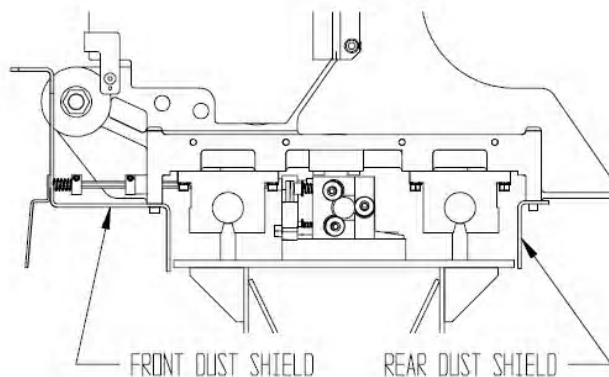

FIG. 3
**STEP 1**--Detach the bellows mounting brackets from the carriage. Detach front and rear shields. See FIG. 3.
**STEP 6**--Replace front and rear shields. See FIG. 3. Replace the bellows carriage mounting brackets onto the carriage after the actuator bearings are replaced (see next page).